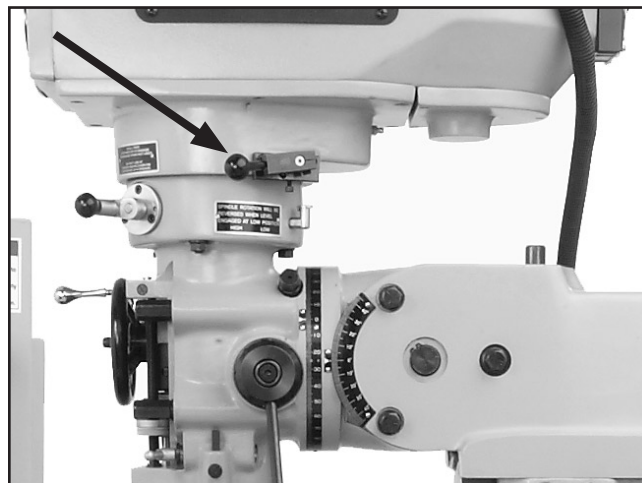

Figure 37. Spindle speed range selector in the HIGH position.
3. Press the selector handle in toward the head to retract the locking pin and move it. Make sure the locking pin is seated in the indent for the position you have chosen (see **Figure 37**).